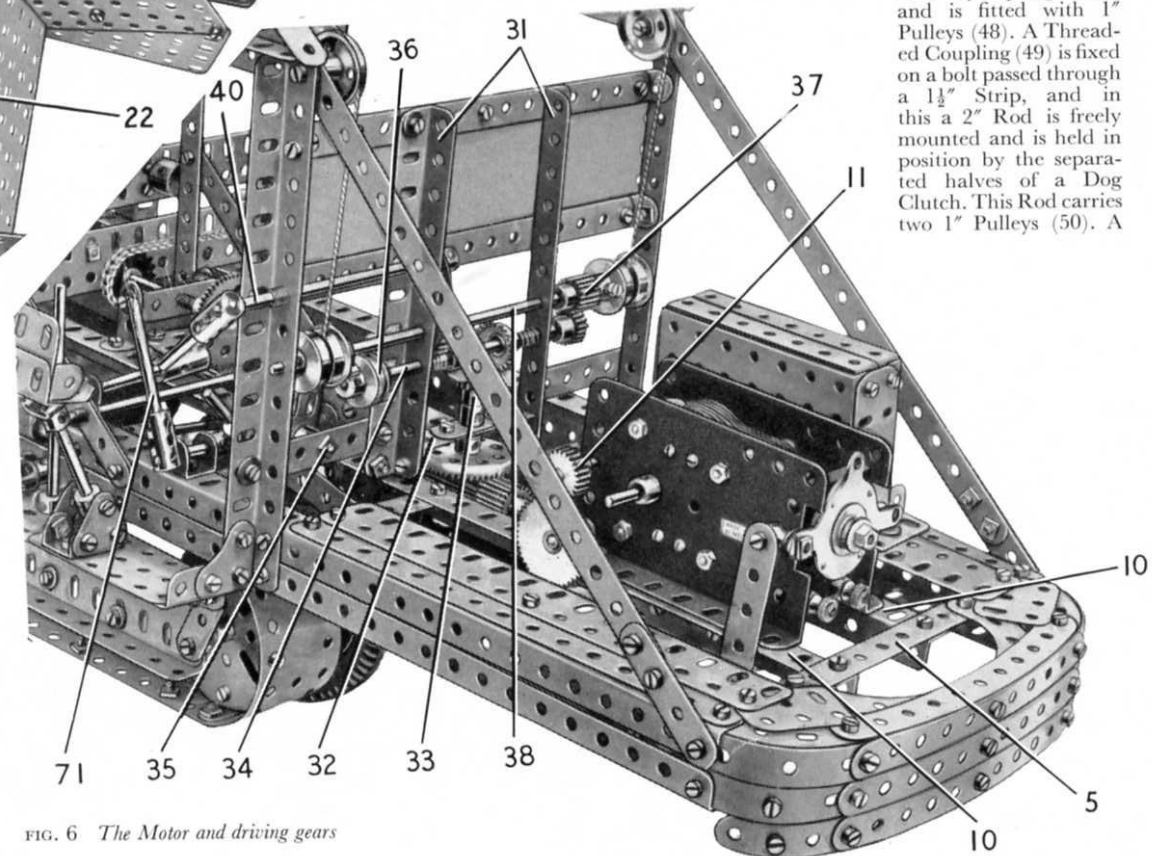

FIG. 6 The Motor and driving gears
An E20R Electric Motor is bolted by its flanges to the Girders (10) (see Fig. 6) and a
$\frac{7}{16}$ " Pinion on its armature shaft drives a 60-tooth Gear (see Fig. 2) on a 3" Rod mounted in the Motor side-plates. This Rod carries a $\frac{3}{4}$ " Pinion (11) (Fig. 6) that drives a 50-tooth Gear on a $2\frac{1}{2}$ " Rod. A Worm (12) (Fig. 2) fixed on this Rod engages a $\frac{1}{2}$ " Pinion on an $11\frac{1}{2}$ " Rod (13). The bearings for Rod (13) are provided by a Double Arm Crank (14) and a $1\frac{1}{2}$ " Strip, each of which is attached to the Girders (10) by two Angle Brackets. The $1\frac{1}{2}$ " Strip is positioned immediately behind a $\frac{1}{2}$ " Pinion (15) (Fig. 8) fixed on the Rod, which carries also a $\frac{3}{4}$ " diameter $\frac{1}{2}$ " face Pinion (16) and a $\frac{7}{8}$ " Bevel Gear (17).
Two $5\frac{1}{2}$ " Angle Girders (31) are connected to the Girders (10) by Corner Angle Brackets, and each is joined to one of the Girders (2) by a 3" Strip. The Girders (31) are connected by two $5\frac{1}{2} \times 2\frac{1}{2}$ " Flexible Plates overlapped seven holes and edged by two $7\frac{1}{2}$ " Strips. These are attached to the Girders (2) by Angle Brackets. A $2\frac{1}{2} \times \frac{1}{2}$ " Double Angle Strip (32), with a Double Arm Crank bolted to it, is fixed between the lower ends of the Angle Girders (31) (Fig. 6).
A $1\frac{1}{2}$ " Contrate that meshes with the Pinion (16) (Fig. 6) is fixed on a $1\frac{1}{2}$ " Rod free in the Double Angle Strip (32) and in the boss of the Double Arm Crank. A $\frac{1}{2}$ " Pinion (33) is fixed on the upper end of the Rod. A cross shaft (34) is formed by a 5" Rod mounted in the Girders (31), and this carries two $\frac{3}{4}$ " Contrates arranged one on either side of the Pinion (33), with a Compression Spring between each Contrate and one of the Girders (31).
The movement of Rod (34) is controlled by a Bell Crank mounted on a Pivot Bolt (35) (Fig. 6). One arm of the Bell Crank is extended by a 1" Rod held in a Handrail Support, and a Threaded Pin is fixed in the other arm. The Threaded Pin engages a $\frac{1}{2}$ " loose Pulley (36) with a $\frac{3}{4}$ " Washer and a Collar on either side of it. A $\frac{1}{2}$ " Pinion on Rod (34) drives a $\frac{1}{2}$ " diameter, $\frac{1}{2}$ " face Pinion (37) on an 8" Rod (38). This Rod carries two pairs of $\frac{3}{4}$ " Flanged Wheels and a Ratchet Wheel (39). A Pawl on a $4\frac{1}{2}$ " Rod (40) engages